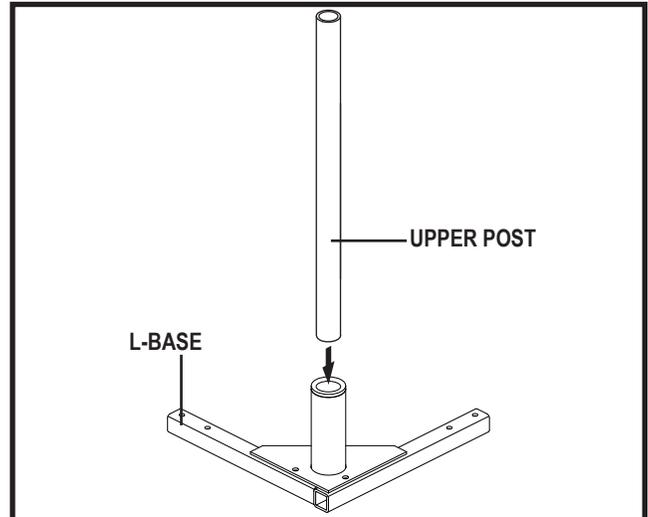

Figure 4. Upper Post Installation
1. Insert the upper post into the L-base. See figure 4.